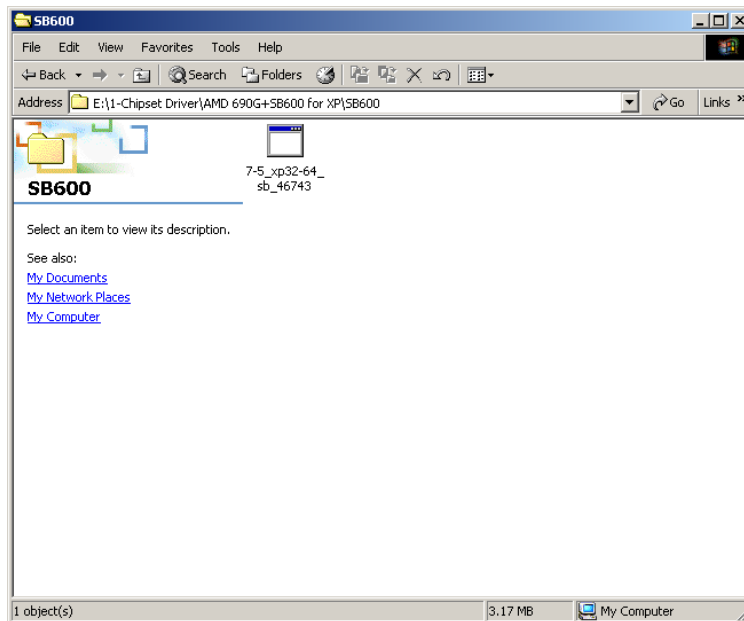

Figure 7-5: Chipset Driver Installation License Agreement
Step 5: Open the **SB600** directory. The screen in **Figure 7-5** appears.